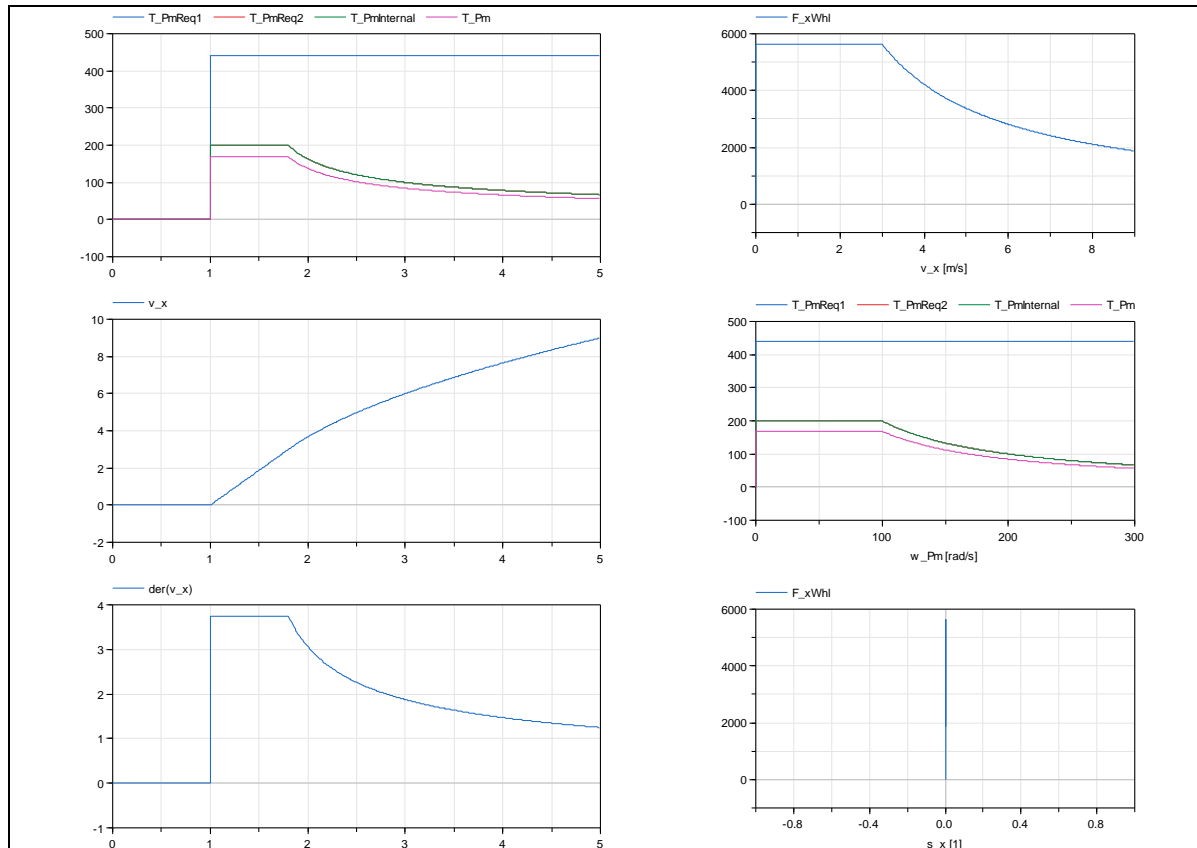

Figure 1-2: Result of the handed-out plot script
- In the handed out Modelica file there is a package “package_HandOuts”. It includes the model “_1D”, which is the same model as presented at the lecture. Test simulate it and plot some results. (You can plot with selecting variables in the variable list or with the handed-out plot-script “plot_1D_HandOut.mos”. (The script language is not standardised, so the script file only works in the tool Dymola.) Such a test simulation should result in plots approximately as Figure 1-2.